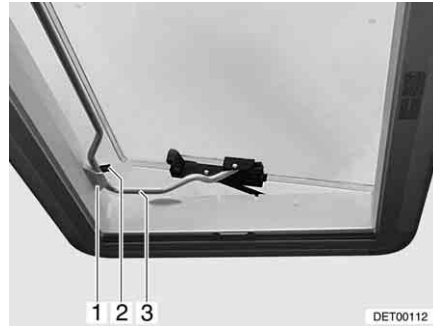

Fig. 60 Heki skylight in ventilation position 2
- Insert the bar (Fig. 60,3) into the holder (Fig. 60,1).
- Place the lever (Fig. 60,2) over the bar.